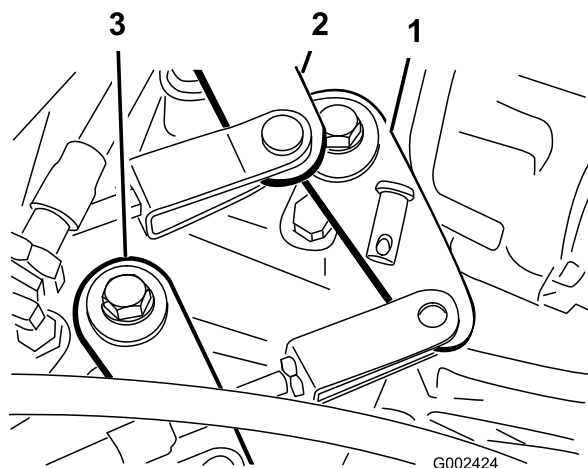

Figure 46
2. Remove the clevis pins securing the shift cables to the transaxle shift arms (Figure 46).
1. Remove the clevis pin securing the High–Low cable to the transaxle (Figure 46).